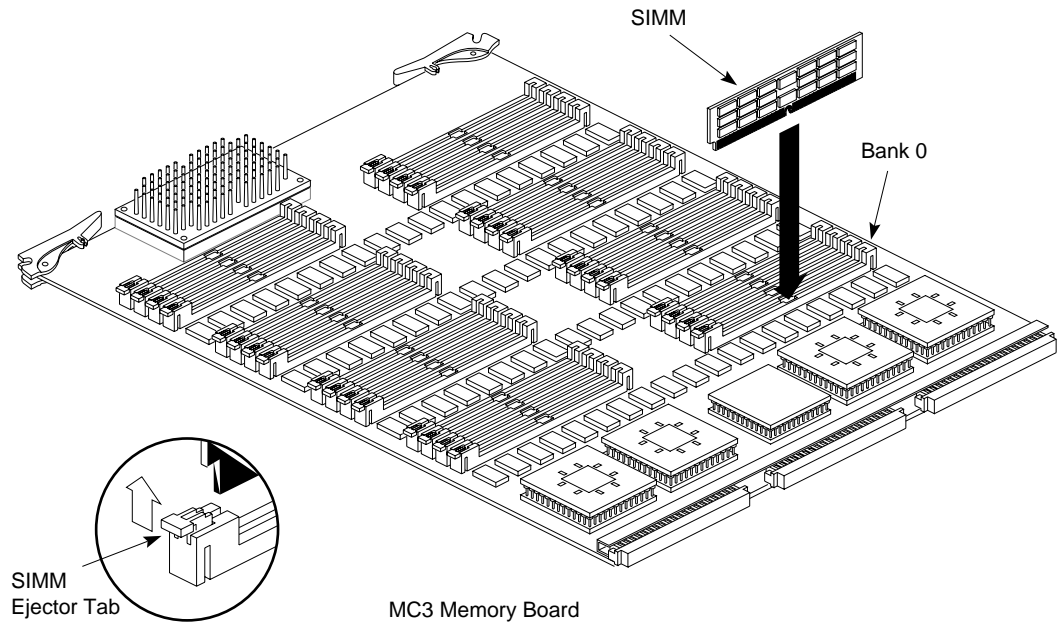

Figure 3-15 SIMM Installation
1. Place the extraction tool over the SIMM ejector tab as shown in Figure 3-15.